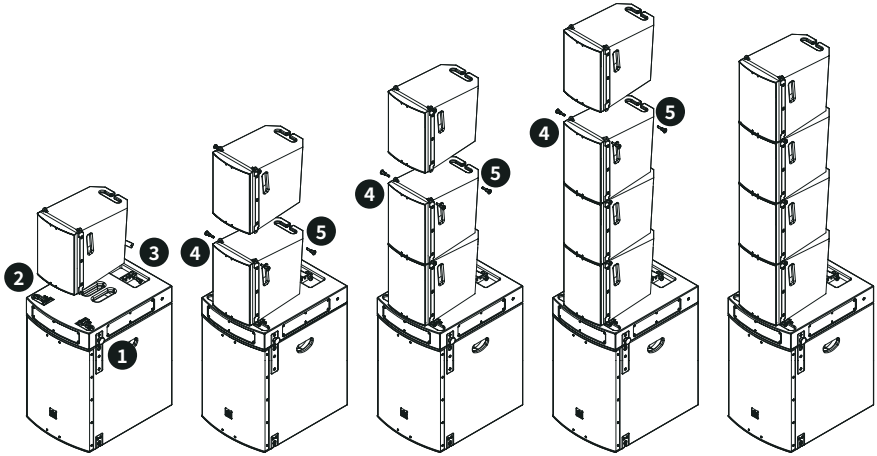

Figure 12. Installation of stacked arrays with the M-F3A S12 PRO SFI and M-F3A S15 PRO SFI frame.
2. Place the first M-F3A or M-F3A PRO unit over the stacking frame. Fasten the two lower front rigging points of the box with the security pins of the frame. See figure 12.
7. Repeat the three previous steps to install more M-F3A or M-F3A PRO units on top of the first ones, as shown in figure 12. No more than 4 boxes should be stacked with this frame.